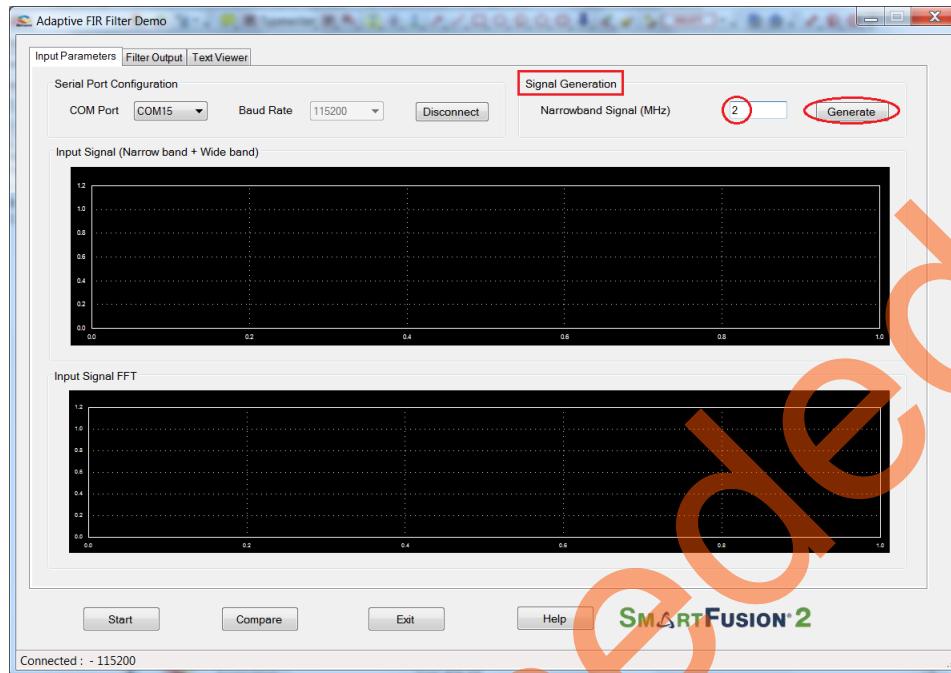

Figure 17 • Signal Generation
4. **Signal Generation:** Enter the narrowband signal frequency as 2 MHz (supported range is 1 MHz to 20 MHz), and click **Generate**. Refer to Figure 17.